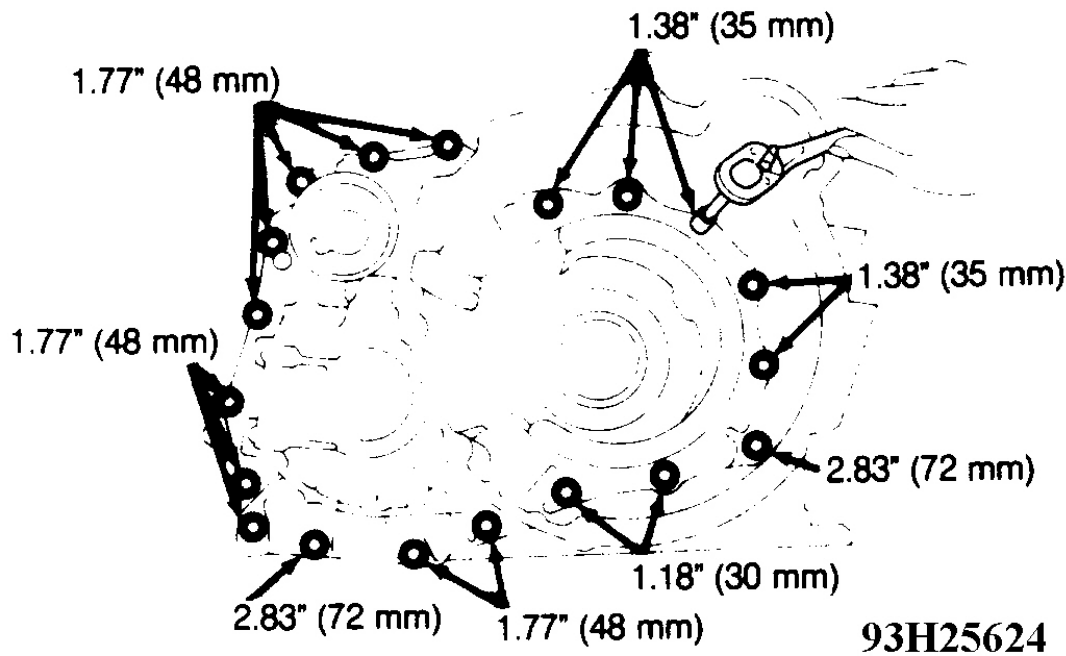
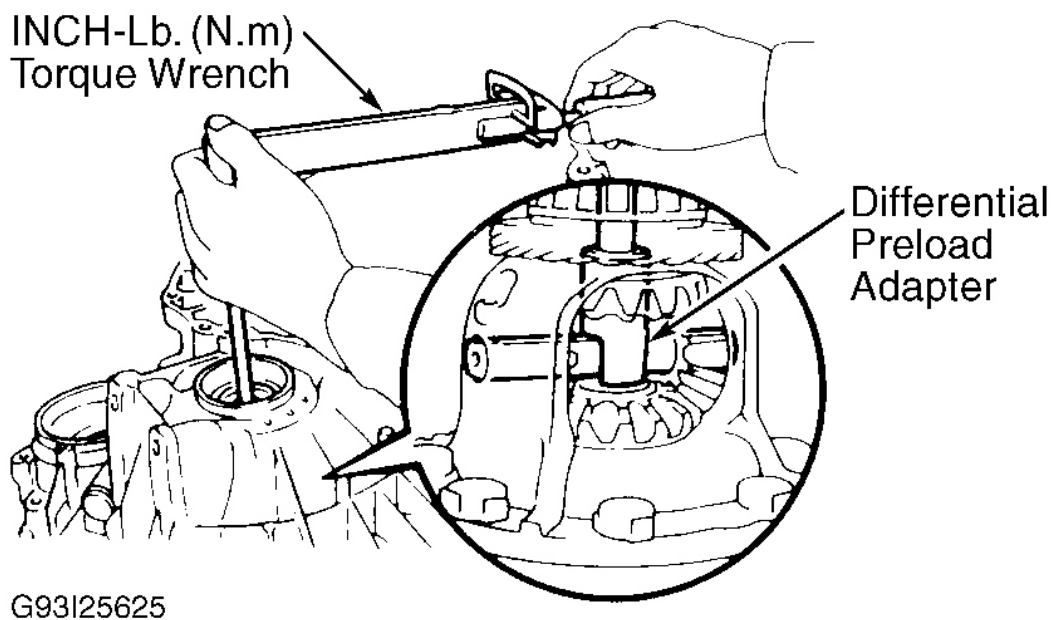

Fig. 51: Installing Transaxle Housing Bolts
Fig. 52: Measuring Differential Bearing Preload
5. Install differential in transaxle case. Install transaxle housing. Install bolts in correct locations and tighten bolts to 21 ft. lbs. (29 N.m). See **Fig. 51**. Measure differential bearing preload, using Differential Preload Adapter (09564-32011) and an INCH-lb. torque wrench. See **Fig. 52**.
7. When correct preload is obtained, remove differential from transaxle case. Install ring gear on differential case. Clean ring gear and mounting surface. Heat ring gear to 212°F (100°C) in an oil bath. **DO NOT** heat ring gear at temperatures greater than 230°F (110°C). Align ring gear on differential case and install NEW bolts. Tighten bolts evenly to 72 ft. lbs. (97 N.m). See **Fig. 51**.
25. Rotate forward clutch to mesh with front planetary gear and discs. Install direct clutch and forward clutch into transaxle case. Install differential. Apply Loctite (518) to transaxle housing. Install transaxle housing. Install mounting bolts in original locations. See **Fig. 52**. Tighten bolts to 21 ft. lbs. (29 N.m). Check differential side bearing preload. See **DIFFERENTIAL** under COMPONENT DISASSEMBLY & REASSEMBLY.